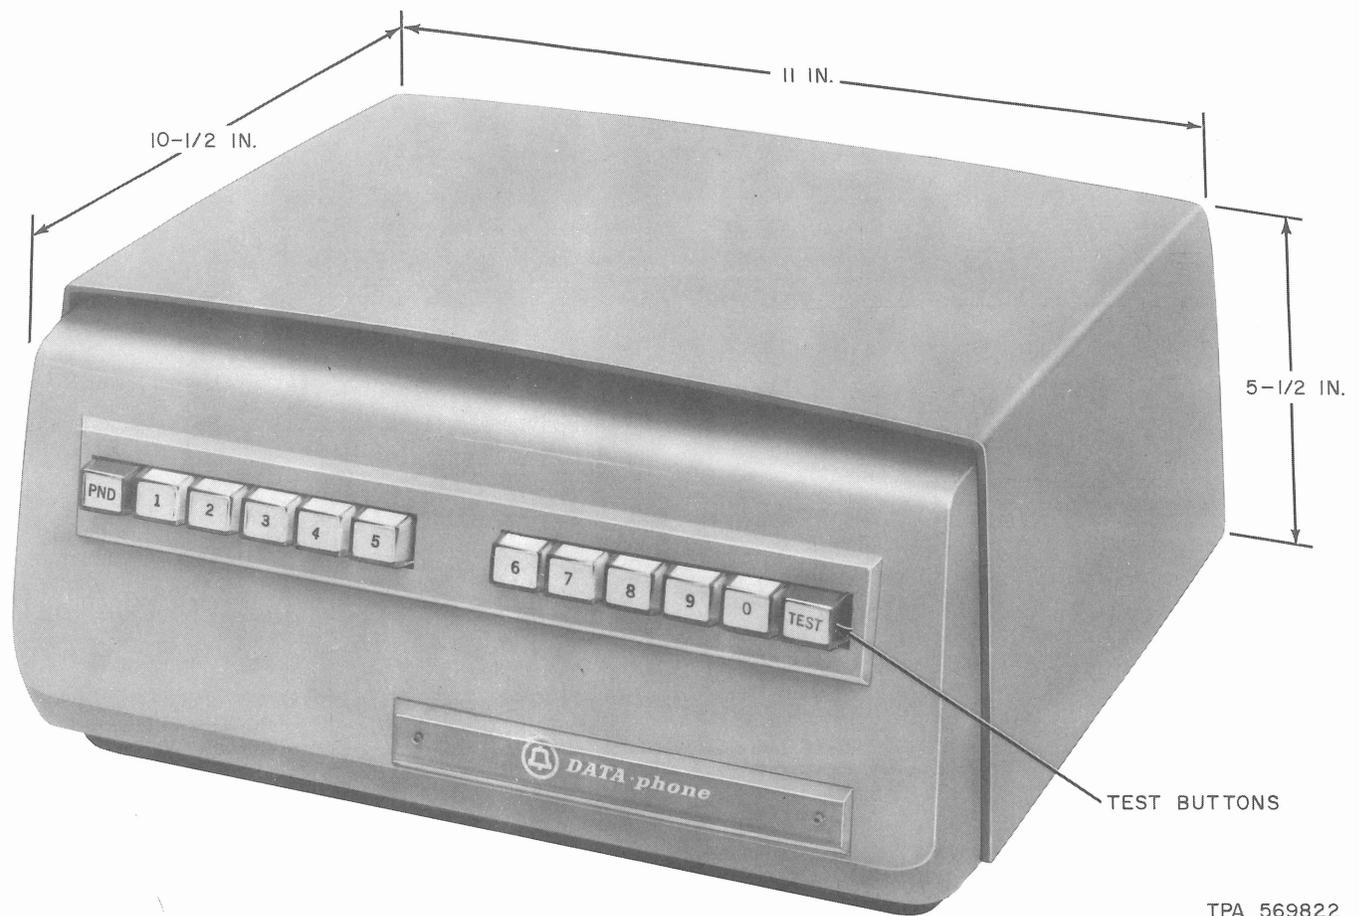

Fig. 1—Data Auxiliary Set 801C3 or 801C4—Front View
2.01 Each DAS 801C3 or 801C4 is housed in a 2-tone plastic housing having no provision for a handset. Figure 1 shows the front panel and gives the physical dimensions of the DAS 801C3 and 801C4.
2.06 The DAS 801C3 and 801C4 provide a means of testing that is independent of the business machine control signals. The test buttons shown in Fig. 1 are used to simulate the control signals that are furnished by the business machine. These buttons can be used to generate the tones for the numbers 1 through 9 and zero; however, the frequencies for the 11th and 12th tones cannot be generated using the test buttons. For information on making a test of the data auxiliary set using the test buttons, refer to the section entitled Data Auxiliary Sets 801C3 and 801C4, Test Procedure (598-012-501).